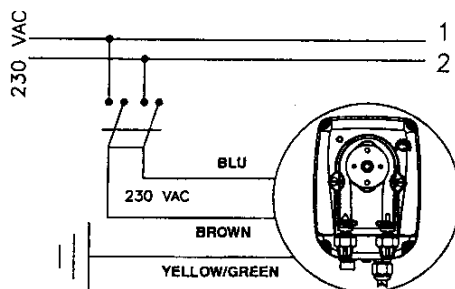

Fig. 4
1. **Disconnect from the mains by means of two poles circuit breaker, having 3 mm minimum distance between the contacts (Fig 4).**
1. Disconnect the plug from the mains or by means of an onnipolar switch with 3 mm minimum distance between the contacts (Fig 4)
- Carefully observe the regulations in force in the various countries with regards to electrical installations (Fig. 4). **When the supply cable is devoid of a plug, the equipment should be connected to the supply mains by means of a single-pole circuit breaker having a minimum distance of 3mm between the contacts. Before accessing any of the electrical parts, make sure that all the supply circuits are open.**